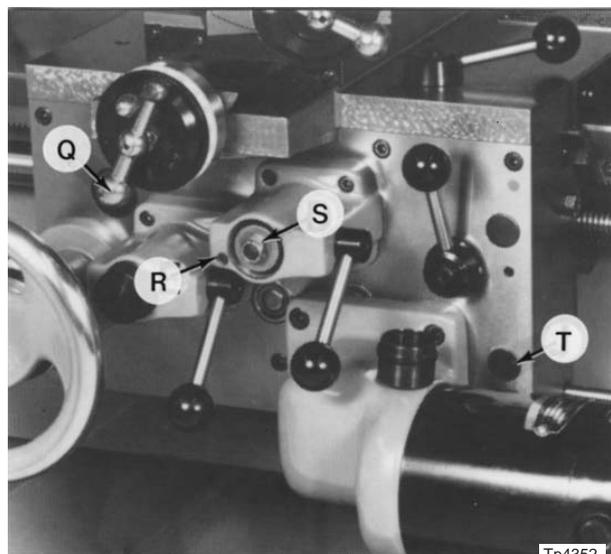

Figure 1.25 - Power Feed Clutch Adjustment
26. With the clutch handles in one of the notched positions (up or down), tighten screw “R”, Figure 1.25, in each clutch housing.
2. Adjust each clutch at nut "S", Figure 1.25.